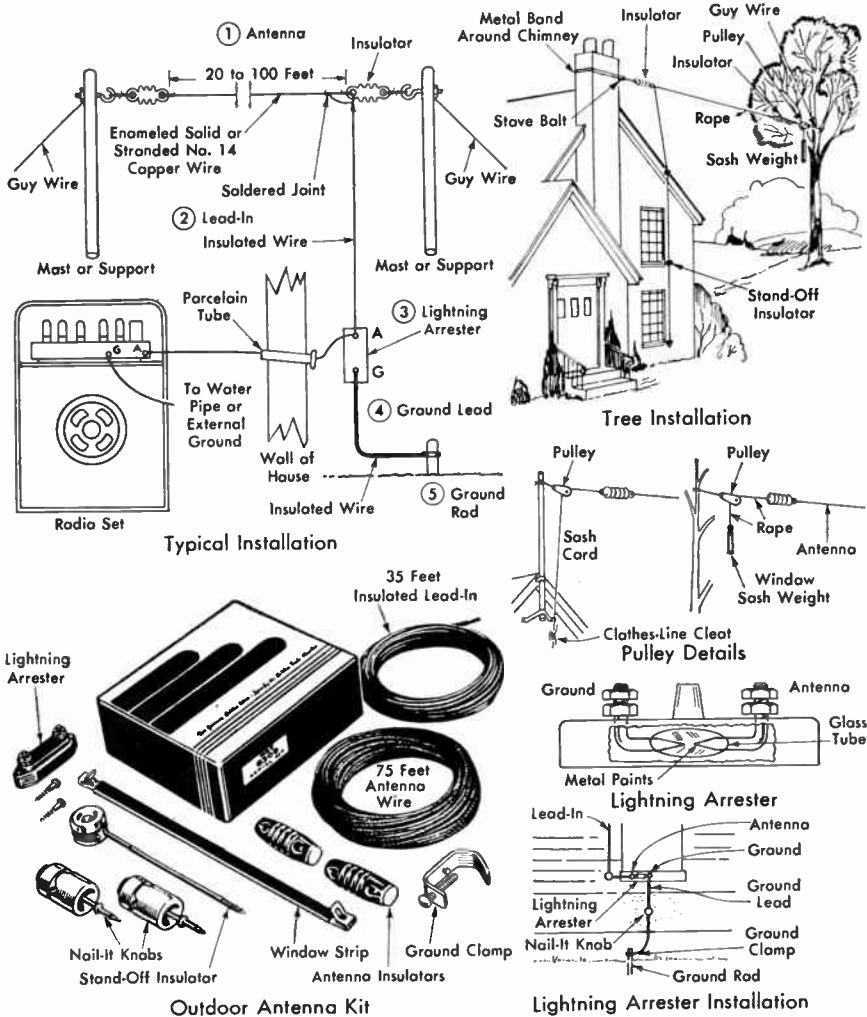

Fig. 4. Practical ideas for outdoor a-m radio antenna installations
**Simple Outdoor Antenna.** The simplest and most used outdoor antenna for homes is the inverted-L antenna shown in Fig. 4. It has a long horizontal antenna wire mounted high in the air, sometimes called the flat top. The insulated lead-in wire runs more or less vertically downward from one end of the flat top to the antenna terminal of the radio set. On the outside of the house at the point where the lead-in wire is run through a wall or window, a lightning arrester is mounted and is grounded to a nearby water pipe or to a rod driven into the earth below. An outdoor antenna is needed only for very old a-m sets, however, or for modern sets in far-out rural locations.
Complete antenna kits like that in Fig. 4 are convenient to order and make a good impression on the customer. The ground rod must be purchased separately if needed. You may also need a few more nail-it knobs, to anchor the lead-in wire securely.
**Anchoring to Chimneys.** The chimney is a convenient and proper support for one end of the horizontal antenna wire, if the job is done right. Use a galvanized steel strap around the chimney, as shown in Fig. 4. Never wrap wire around the chimney because it may cut through the chimney during storms.
If the mast is higher than you can conveniently and safely reach, you may wish to use a pulley and rope for erecting purposes, as shown in Fig. 4. Use strong rope, such as braided sash cord, and anchor the lower end securely to any convenient point near the base of the mast. This has the advantage of permitting easy lowering of the antenna at any time for changes or repairs. It also has the least risk of falling during this tough part of the installation job.
One type of lightning arrester has two sharp metal points facing each other inside a small glass tube that has been evacuated or filled with gas, as shown in Fig. 4. One of these points is connected to the lead-in wire, and the other is connected to ground. The spacing between the points is such that radio signals cannot jump across the gap to ground; hence they take the desired path through the rest of the lead-in to the receiver. A lightning discharge involves such high voltage that it easily bridges the gap between the sharp points and travels harmlessly through the lightning arrester to ground.